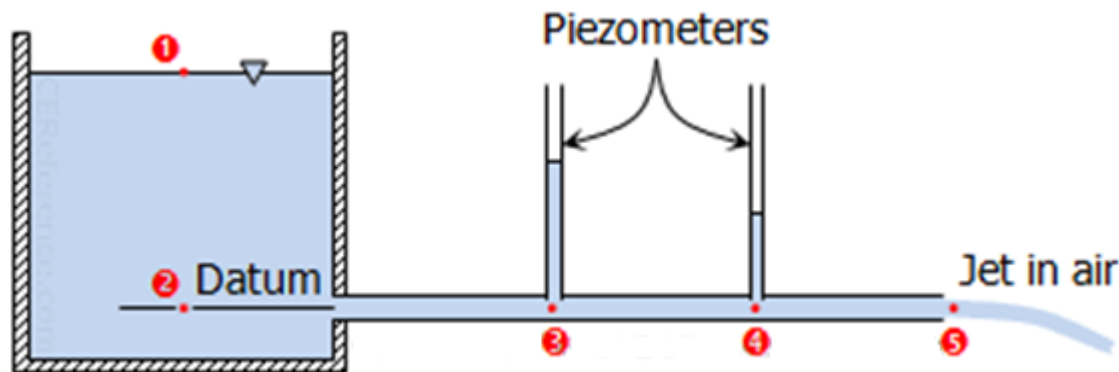

Fig. 13.1
The water surface shown in Figure 13.1 is 6 m above the datum. The pipe is 150 mm in diameter and the total loss of head between point (1) in the water surface and point (5) in the jet is 3 m. Determine the velocity of flow in the pipe and the discharge Q .